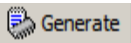

**Figure 4.5. Configuring PCS in JESD204B 5G IP Configuration Interface in Clarity Designer**
- To configure the PCS for the IP, click the **Advanced** button in PCS tab as shown in Figure 4.5.